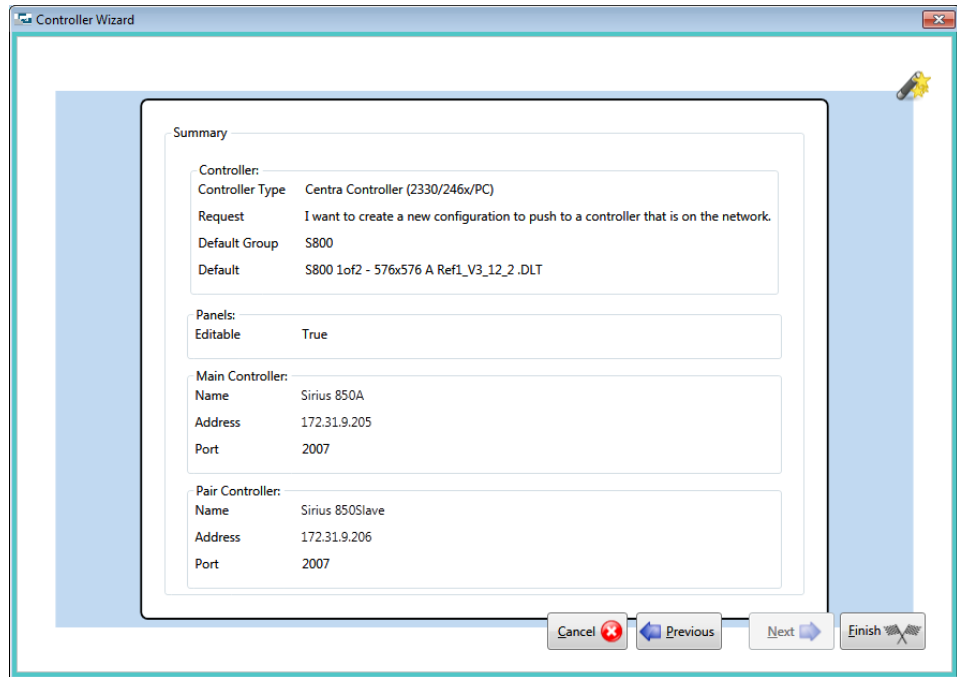

Fig 47. Controller Wizard Summary Screen
13. A summary screen is displayed (Fig 47.). If any of the parameters on this screen are incorrect, click the **Previous** button to return to the screen that requires amendment. edit the details, and continue through the Controller Wizard as before.